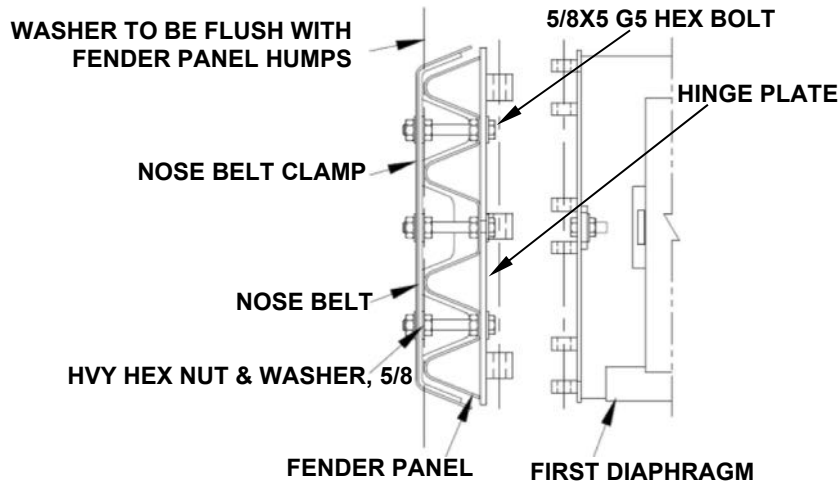

Figure 37
- a. Using 5/8X5" hex bolts, 5/8X1 3/4" flat washers, and 5/8" hex nuts, attach Fender Panels to Diaphragm Hinge Plates on three places per side (Figure 37 and 38). Tighten all fasteners.
- b. Thread additional 5/8" nuts onto the 5/8X5" hex bolts. Slide 5/8X1 3/4" flat washers onto bolts (three places per side). Adjust the nuts so the outside of the washers are even with the Fender Panel humps (Figure 37).